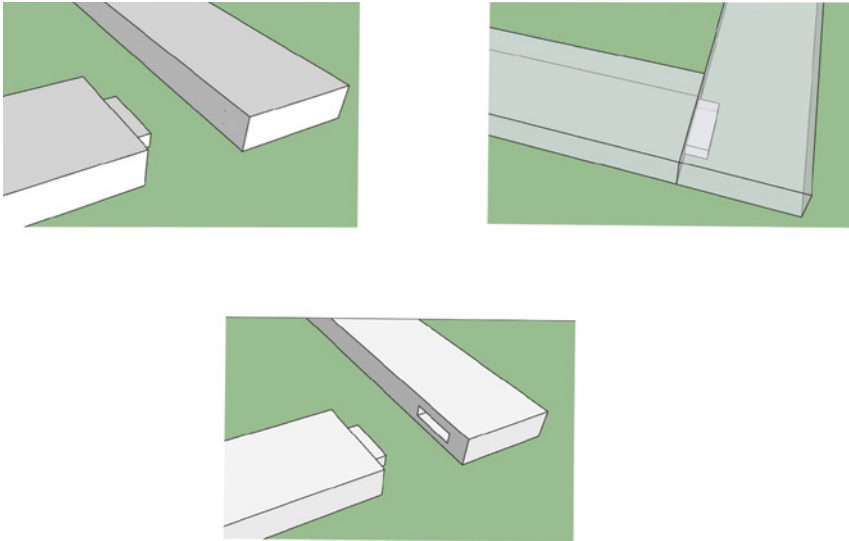

Figure 1-11: With solid modeling tools, a tenon is pushed into a block of wood, then pulled away, revealing a clean mortise joint created.
- ▶ Perform additive and subtractive modeling tasks called Boolean operations. This saves modeling steps, making for a faster workflow (Figure 1-11).